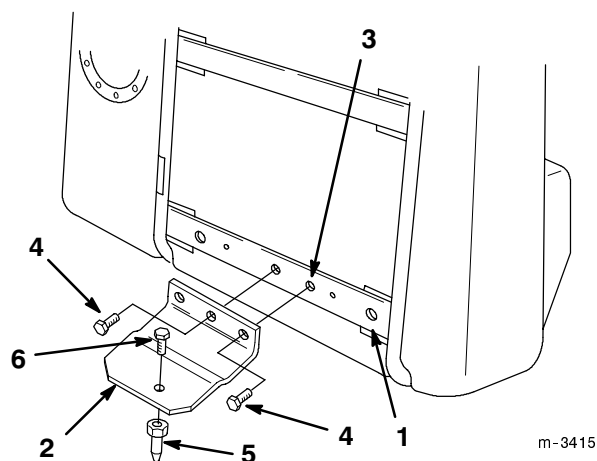

Figure 2
1. Align the holes in the hitch plate tab with the alignment hole on the mounting frame (Fig. 2).
2. Secure the hitch plate to the mounting frame using two 5/16" x 1" bolts and 5/16"-18 locknuts (Fig. 2).
3. Secure the hitch pin in the hole in the hitch plate using a 5/16" x 5/8" bolt (Fig. 2).